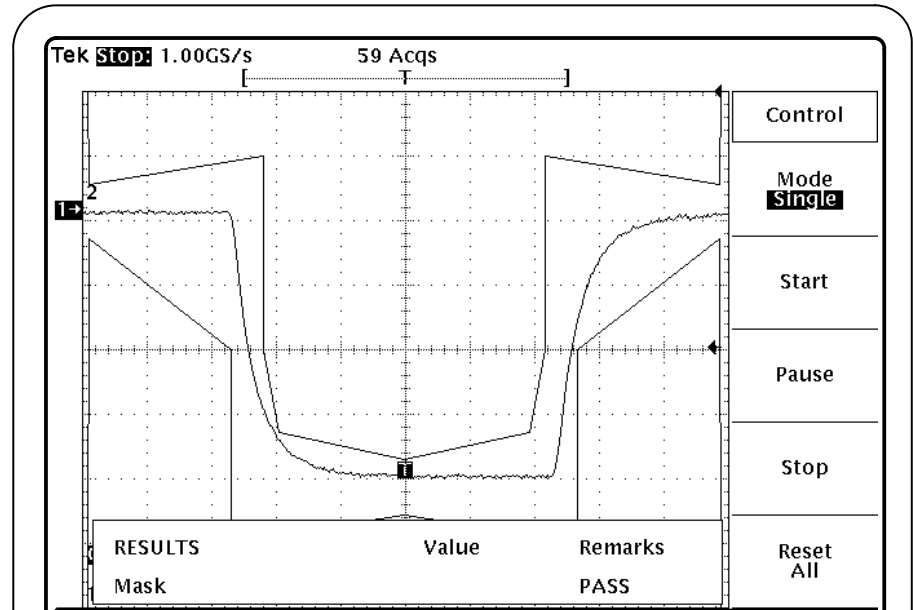

Figure 8: An E1 2.048 Mb/s Coax Pair pulse-mask pattern, communications waveform, and Results readout
3. Wait for the calculations to complete. Figure 8 shows the mask pattern, the E1 2.048 Mb/s Coax Pair pulse-diagram, and the measurement Results readout.